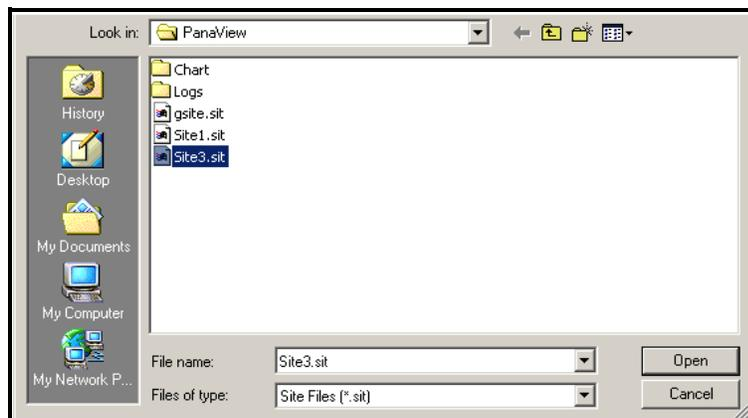

Figure C-15: Site File Selection
2. Then click on the *Save Site to Meter* button. A screen opens similar to Figure C-15 below.
3. The *Site File Selection* window (Figure C-15 on page C-12) opens. Highlight a site with the desired settings, and click [Open]. PanaView saves the site in the meter with the new name and the desired settings.
3. The *Site File Selection* window (shown in Figure C-15 on page C-12) opens. Enter the desired site name (now with a .prt suffix) and click [Save]. PanaView displays a text version of the site, as shown in Figure C-17 below.